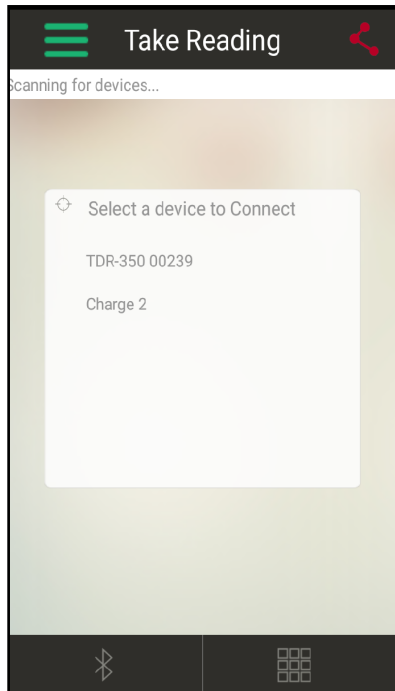

Figure 4. Scanned device list
7. The app will search for the Bluetooth device. It should then appear in the list of scanned devices (Fig. 4).